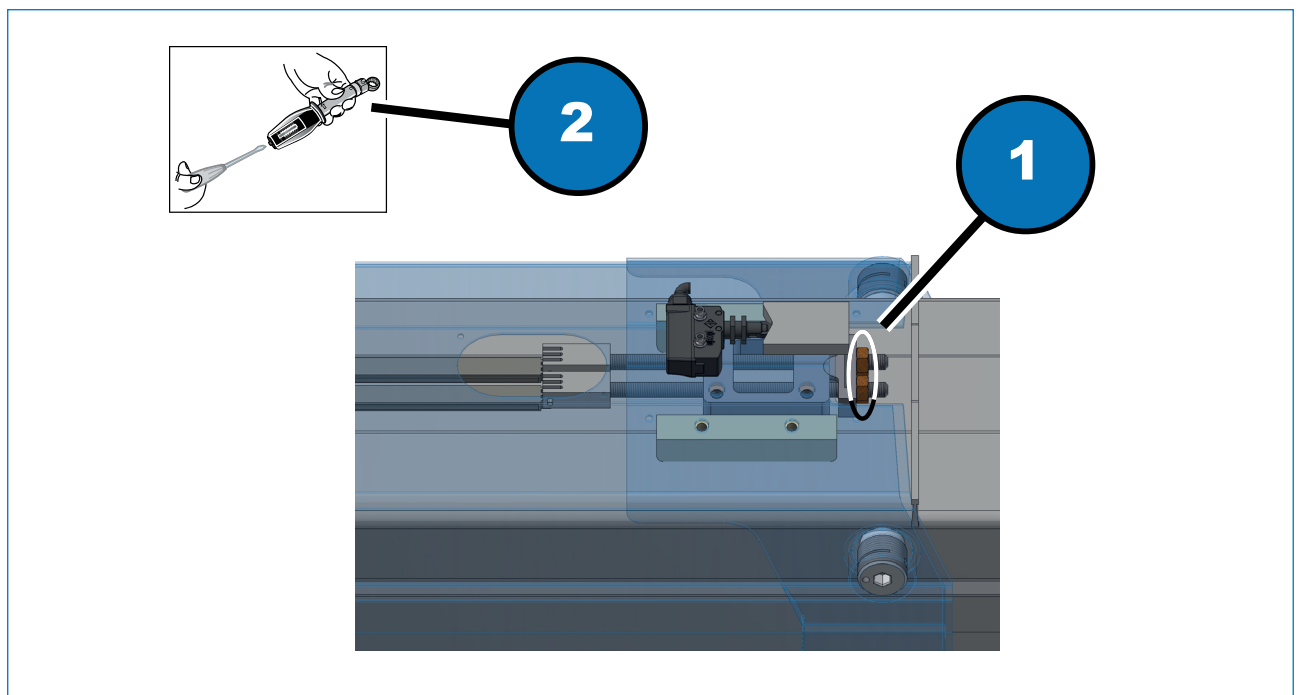

Fig. 8.12
- A) Unscrew the nuts (fig. 8.12, 1):
- B) Tighten the nuts using a TORQUE WRENCH (fig. 8.12, 2).